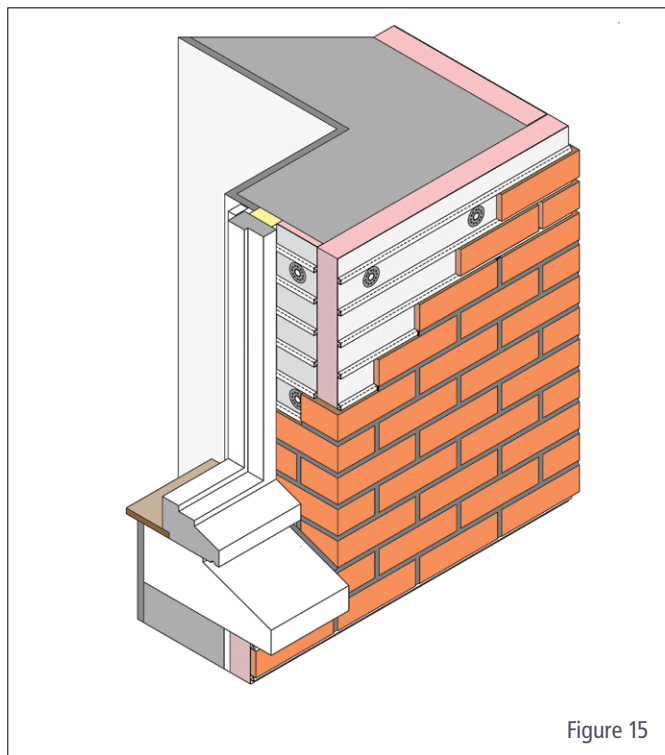

Figure 15
**PLEASE NOTE:** If the length of the return exceeds 102mm, a combination of corners and straight slips must be used. Where Eurobrick Systems panels are not installed over the window/door reveal area and the brick straights can not be pushed into the brick tracks, we recommend that the slips are held in place using nails tapped into the wall surface at the bottom edge of the brick. Remove nails when you are certain that the brick slips are firmly attached. See Figure 15.